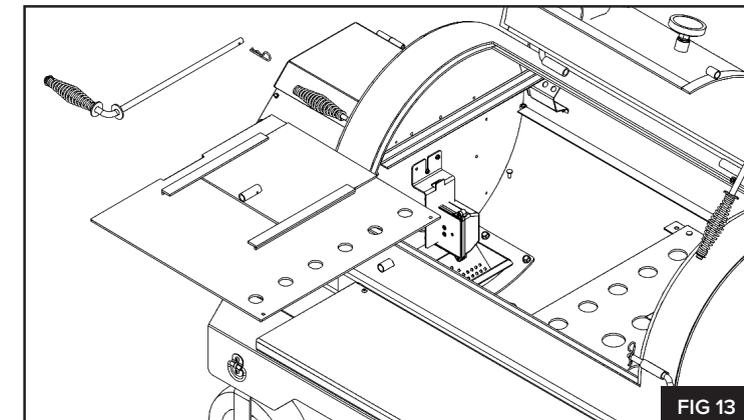

FIG 13
2. Remove the sliding damper handle by first removing the cotter pin, then remove the left half of heat management plate from the cooker. **(FIG 13)**